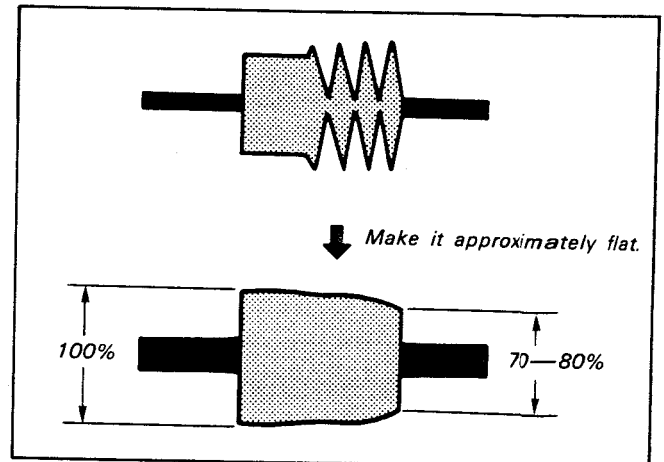

Fig. 4-13
- 3) Rotate No.5 guide counterclockwise to make the RF waveform on the exit side approximately flat (Fig. 4-13)